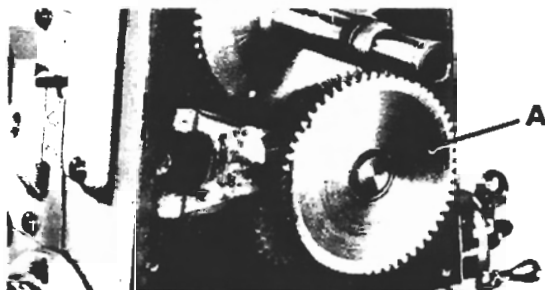

Figure 23
18. Pull back gear assembly (A, fig. 23) from column.